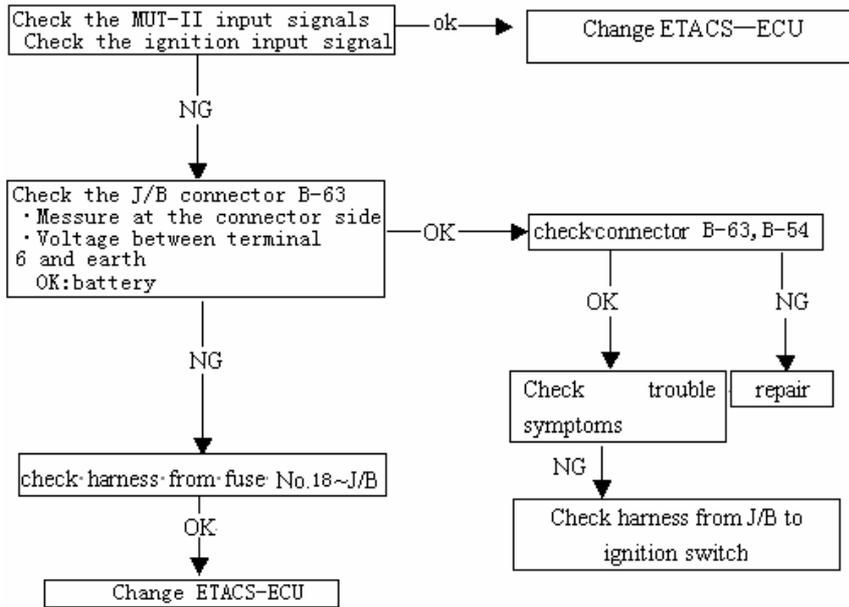

Fig 20-29
3) Trouble symptoms inspection step 1 as table 20-6、 fig 20-29